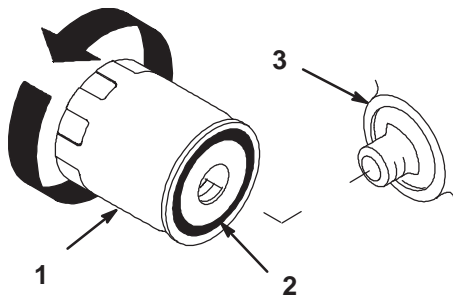

Figure 38
2. Remove the old filter and wipe the filter adapter gasket surface (Fig. 38).
4. Apply a thin coat of new oil to the rubber gasket on the replacement filter (Fig. 38).
5. Install the replacement oil filter to the filter adapter. Turn the oil filter clockwise until the rubber gasket contacts the filter adapter, then tighten the filter an additional 1/2 turn (Fig. 38).